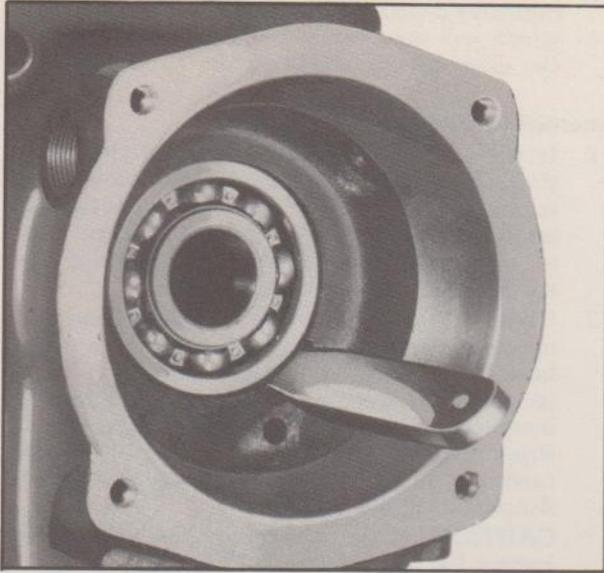

Fig. 6—Removing Rear Bearing
15. Expand the rear bearing lock ring into the case with the special expanding tool, J-935. This raises the lock ring from the groove in the bearing and the bearing may be removed by lightly tapping the outer race toward the inside of the case, Fig. 6.
2. Start the bearing in from the rear, and use the lock ring expanding tool, J-935, to expand the ring into the case. Refer to Fig. 6.